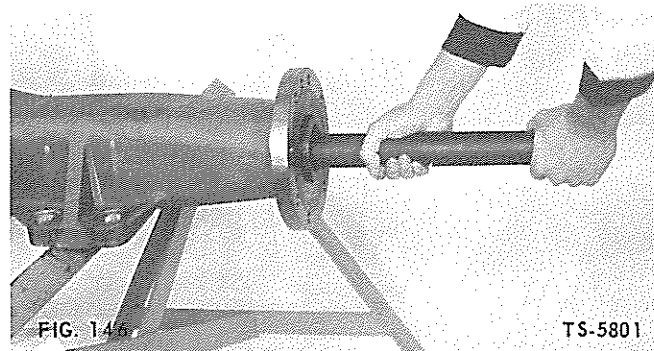

FIG. 146
9. Slide axle shaft into position in axle so that splines engage differential (Fig. 146). Make sure end of axle shaft with retaining ring groove is toward outside of axle.